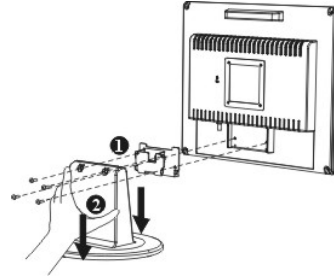
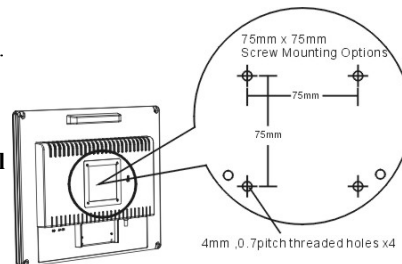

Figure 1-3
Figure 1-4
1. Unscrew screws of the hinge bracket ❶
2. Remove the stand from LCD monitor ❷ (See fig. 1-3)
Before installing to mounting device, please refer to Fig.1-3. The rear of this LCD display has four integrated 4 mm, 0.7 pitches threaded nuts, as well as four 5 mm access holes in the plastic covering as illustrated in Figure 1-4. These specifications meet the **VESA Flat Panel Monitor Physical Mounting Interface Standard** (paragraphs 2.1 and 2.1.3, version 1, dated 13 November 1997).